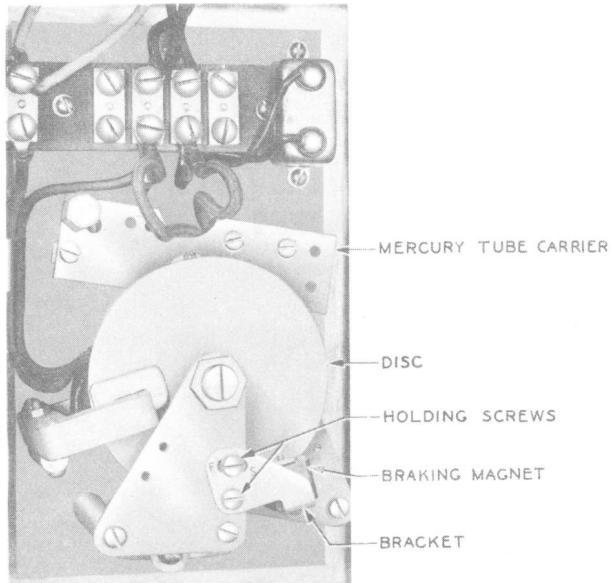
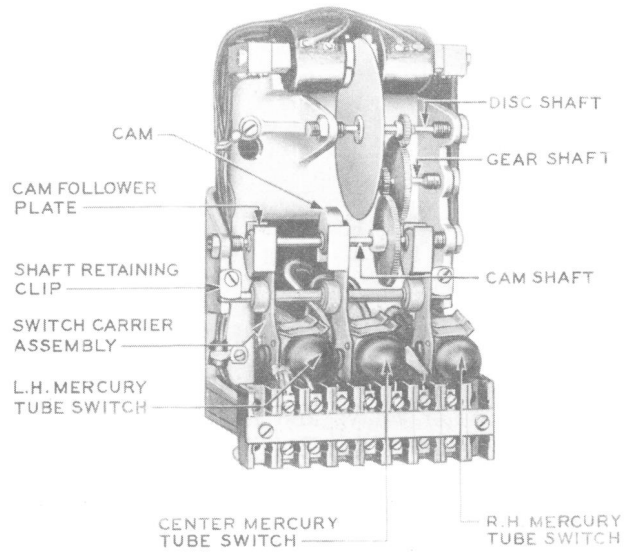
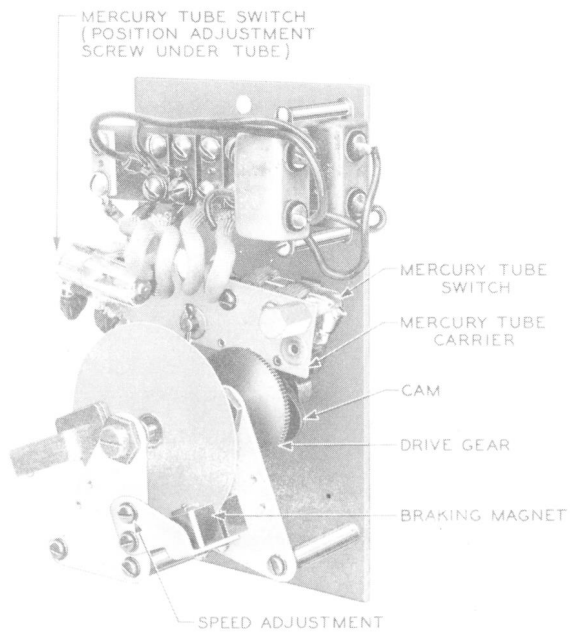
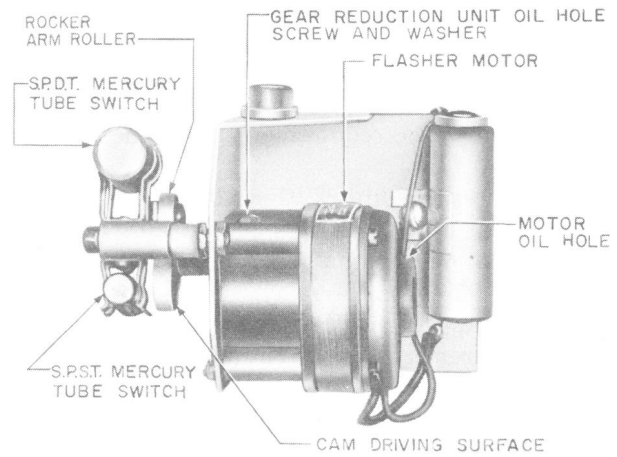

Fig. 3—Single-Circuit Flashing Switch
Fig. 5—3-Circuit Flashing Switch (Crouse-Hinds Company)
Fig. 4—2-Circuit Flashing Switch
Fig. 6—3-Circuit Flashing Switch (Hughey & Phillips Incorporated)
**1.07** The Crouse-Hinds Company 46777AT single-circuit flashing switch is shown in Fig. 3; the 46779AT 2-circuit flashing switch is shown in Fig. 4; the TL1941 3-circuit flashing switch is shown in Fig. 5; and the Hughey & Phillips, Incorporated 3-circuit flashing switch is shown in Fig. 6. The switches contain a motor which, through appropriate gearing, drives a cam that rocks a mercury tube carrier up and down, thereby operating the mercury tube switch or switches on and off as the motor rotates.
(a) *Single- and 2-Circuit Switches (Fig. 3 and 4)*
- (4) Only where 2-circuit flashing switches are used, the make of the left-hand mercury tube switch shall occur simultaneously with the break of the right-hand mercury switch. Adjust as close as possible but avoid a make before break.
**Note:** Make or break can be determined by observation of series pilot lamps in the associated circuit. For proper operation, flashing switch mounting panels should be mounted plumb. Unless positioned approximately as shown in Fig. 4, the four flexible leads running from the mercury tube carrier may prevent the carrier from completing its full motion. Rearrange leads as necessary.
(b) *3-Circuit Switch (Fig. 5)*
(c) *3-Circuit Switch (Fig. 6)*
- (1) To lubricate the motor and the gear reduction unit, apply oil to the motor oil hole; and on the gear reduction unit, remove the round head screw and washer (Fig. 6) and apply oil in the screw hole. Apply a thin coat of cam lubricant **KS-7471** to the cam driving surface.
- (2) No provisions are made for the adjustment of the tilt switches. Replacement tilt switches are premarked for installation in a properly level unit.